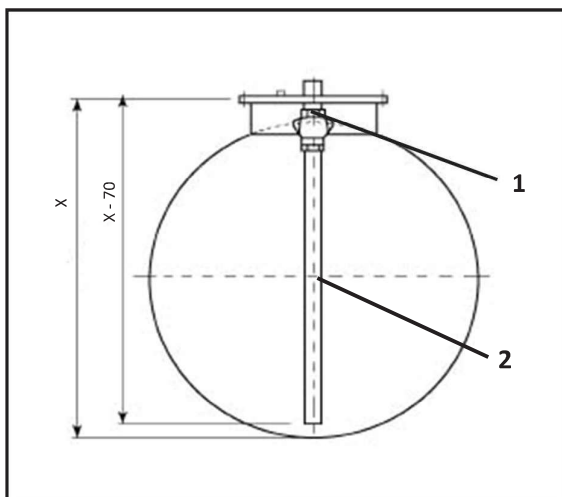

Figure 1
3 : Connect the pipe (position 2/Figure 1) to the ball valve :
- measure distance X between the manhole ring (position 1/Figure 1) and the tank bottom.